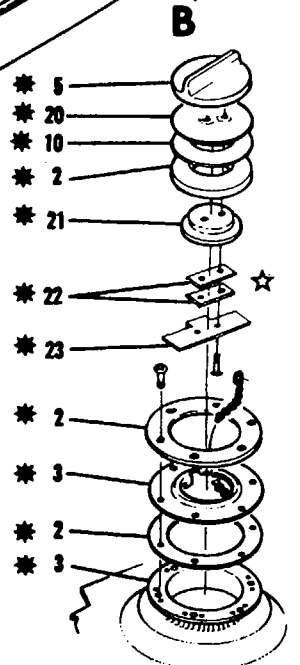

Figure 12-3. Fuel Tank
12-7. REMOVAL AND INSTALLATION. (See figure 12-3.)
g. Reverse the preceding steps for installation. Ensure transmitter is grounded in accordance with figure 12-3.
Ensure transmitter is properly grounded in accordance with figure 12-3.